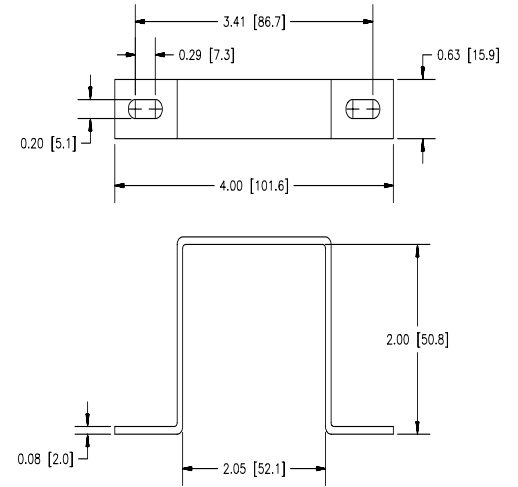

**Figure 1**
2. Connect vacuum supply to the "1/8" nipple in the exhaust port (figure 1).
3. Leave inlet "IN" port (figure 1) open to atmosphere.
4. Connect the outlet "OUT" port (figure 1) to the device being controlled.
(Figure 1)